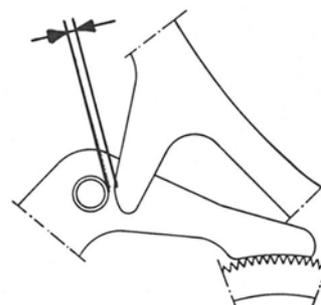

Fig. 2
5.4.3. Check blocking lever insulator: Fig. 2